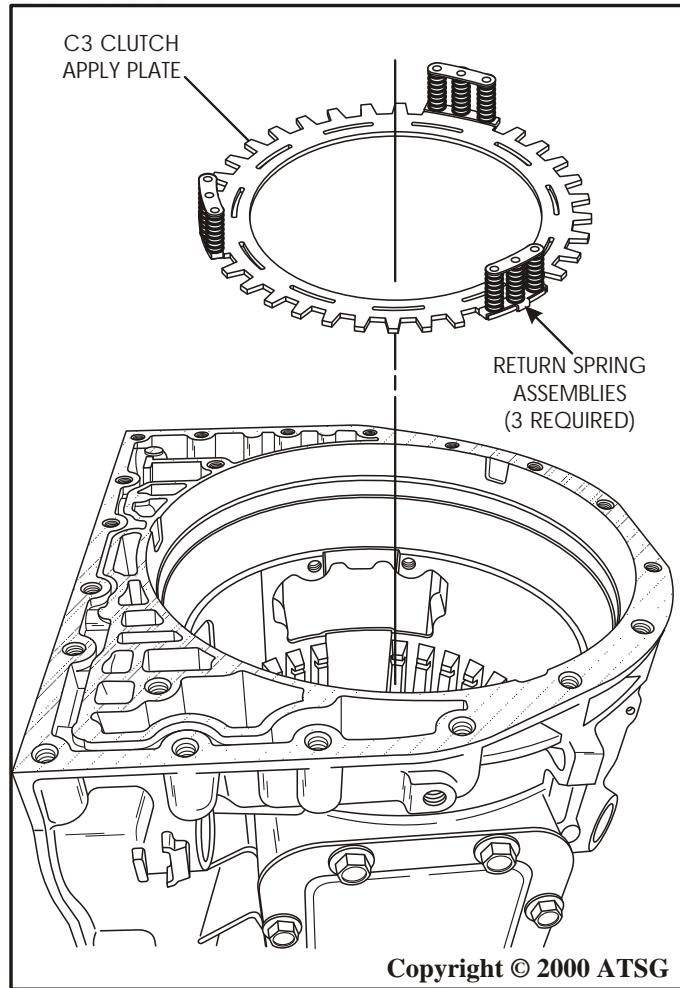

Figure 72
59. Remove the C3 clutch apply plate with the 3 return spring assemblies on it from the case, as shown in Figure 72.
Note: These three return spring assemblies just clip onto apply plate (See Figure 72).